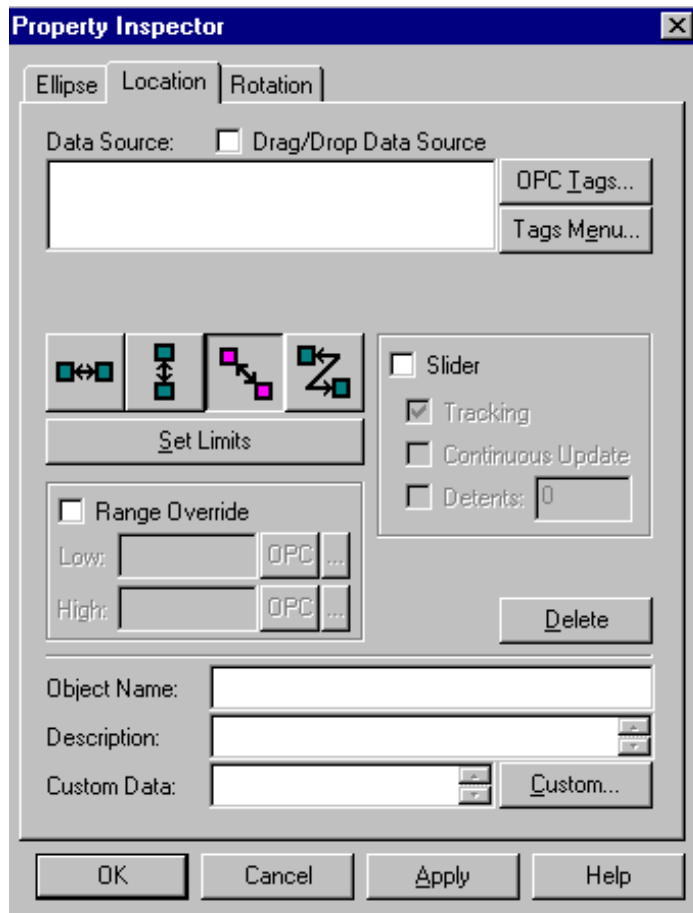

Figure 11-4: Property Inspector Dialog Box – Location Tab
2. On the Dynamics menu, select Actions > Location. The Property Inspector appears with the Location tab (Figure 11-4).